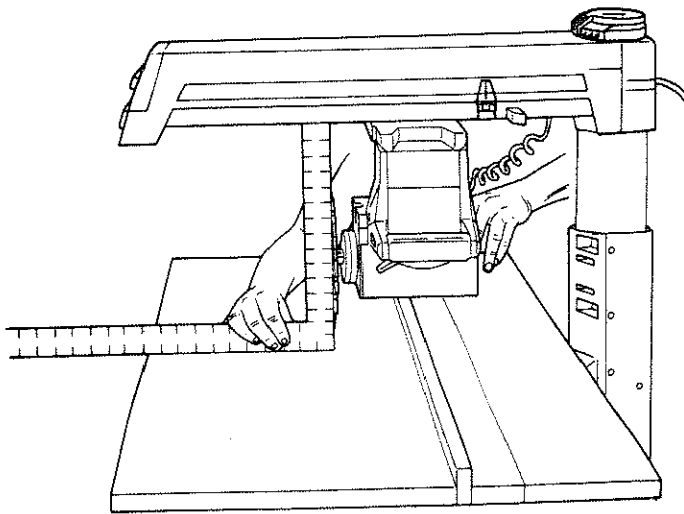

Fig. 64
3. Place the long edge of the framing square on the *table* and the short edge against the *blade* alongside the *arbor shaft*. Make sure the square is against the surface of the *blade* and not on the set of a tooth. (Figure 64)